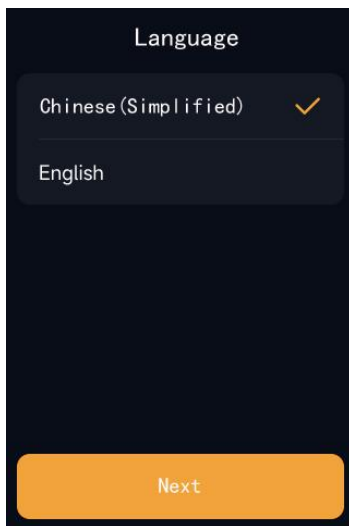

Fig. 3-1
- 1) Start up and enter the initialization interface, select the language and click the "Next" button (Figure 3-1);